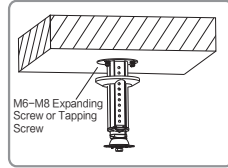

Figure 7
1. Fix the base on the ceiling or concrete (please ensure that the load is 40kg at least). Figure 7